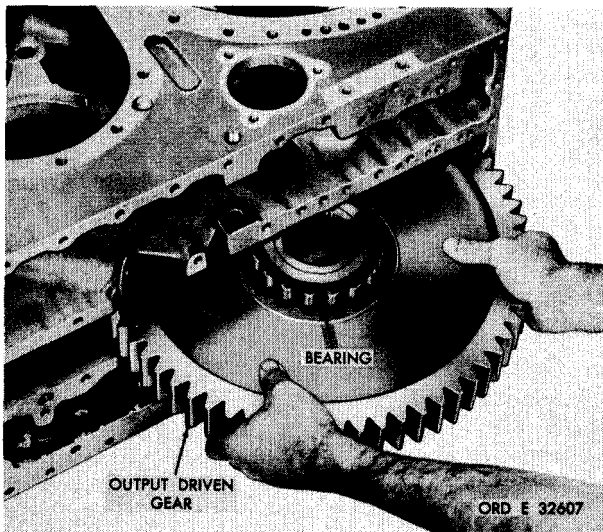

Figure 188. Removing output driven gear
ar. Remove the output driven gear with inner bearing assemblies (fig. 188). Do not remove the inner bearing assemblies from the gear, unless replacement is necessary.
g. If bearings were removed from output driven gear 49 (fig. 379, fold-out 8) install an inner bearing race assembly on each side of the gear (fig. 188). Press the bearing until firmly seated on the gear.
h. Install the output driven gear with bearing inner race assemblies into the rear housing (fig. 188).